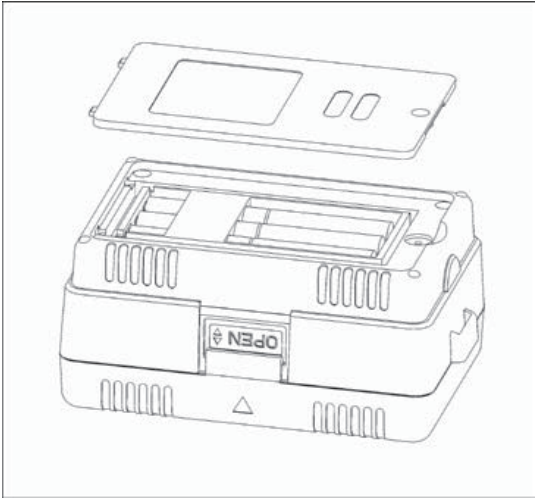

Figure 6
**XII. Replacing the Battery(See Figure 6)**